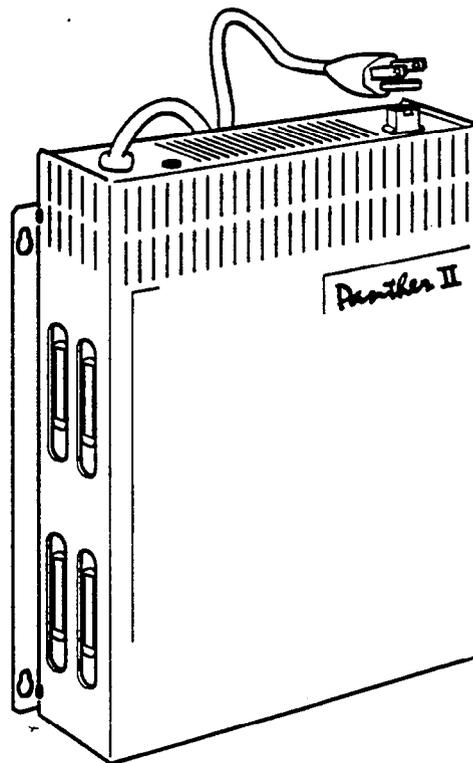

Figure 2-2 Key Service Unit
2.04 The Key Service Unit, typified in Figure 2-2, is a microprocessor-controlled unit employing space division switching and stored program control to provide all of the switching and control requirements of the system. The KSU is wall mounted, and has connectors which facilitate connection of lines, telephone sets and ancillary equipment. The external lines are connected to the KSU directly. The sets are connected to the KSU via a Terminal Block (typically a 66-Block or Bix Block). A 50-pin connector connects the KSU to the Terminal Block, while 4-wire cables connect the Terminal Block to the sets (except where off-hook voice announce on a Panther II Display Set is used). Ancillary equipment is connected to the KSU directly, using the appropriate cable/connector. The two KSUs of the Panther II 2064 system are connected by two expansion cables included with the Panther II 2064 KSU. The Panther II 2064 KSU is mounted on the 1032 KSU using a mounting bracket (included with the Panther II 2064 KSU). Refer to *Panther II 820/1032/2064-200, Installation and Commissioning* for installation instructions.